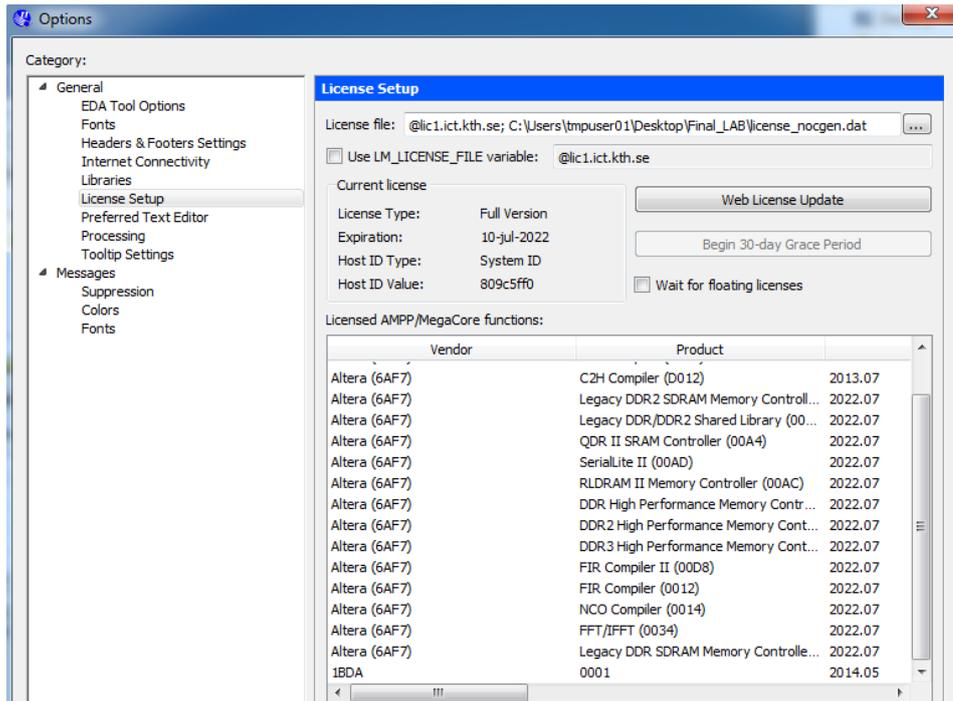

Figure 2.19.: Setup the NSG license in Quartus
5. once you are back in the Quartus main window, click on Tools – License setup to access the License manager. As shown in the top of Figure 2.19, add the